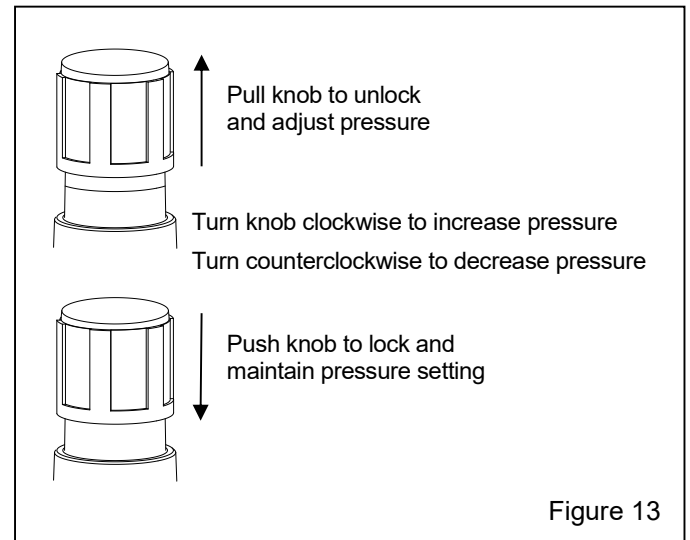

Figure 13
NOTE: Pressure regulators furnished on the machine have locking adjustment knobs. Pull the knob out to make the adjustment, and push the knob in to lock it and maintain the setting. Refer to Figure 13.
6.1.3 To adjust pressure, unlock the knob by pulling it out, as shown in Figure 13, and turn it clockwise to increase pressure or counter-clockwise to decrease pressure. Once operating pressure is set, push in on the knob to lock it and maintain the setting.